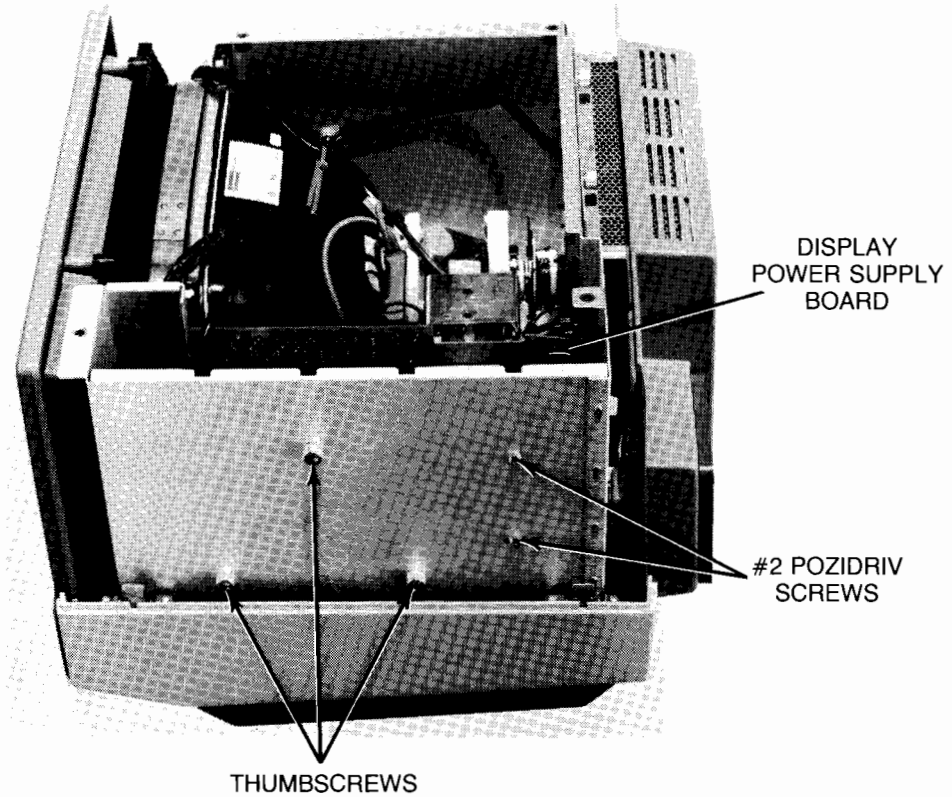

Figure 4-80. Releasing Display Power Supply Board
3. Remove two #2 Pozidriv screws from right side of chassis (Figure 4-80).
4. Loosen three thumbscrews at right side of chassis (Figure 4-80).